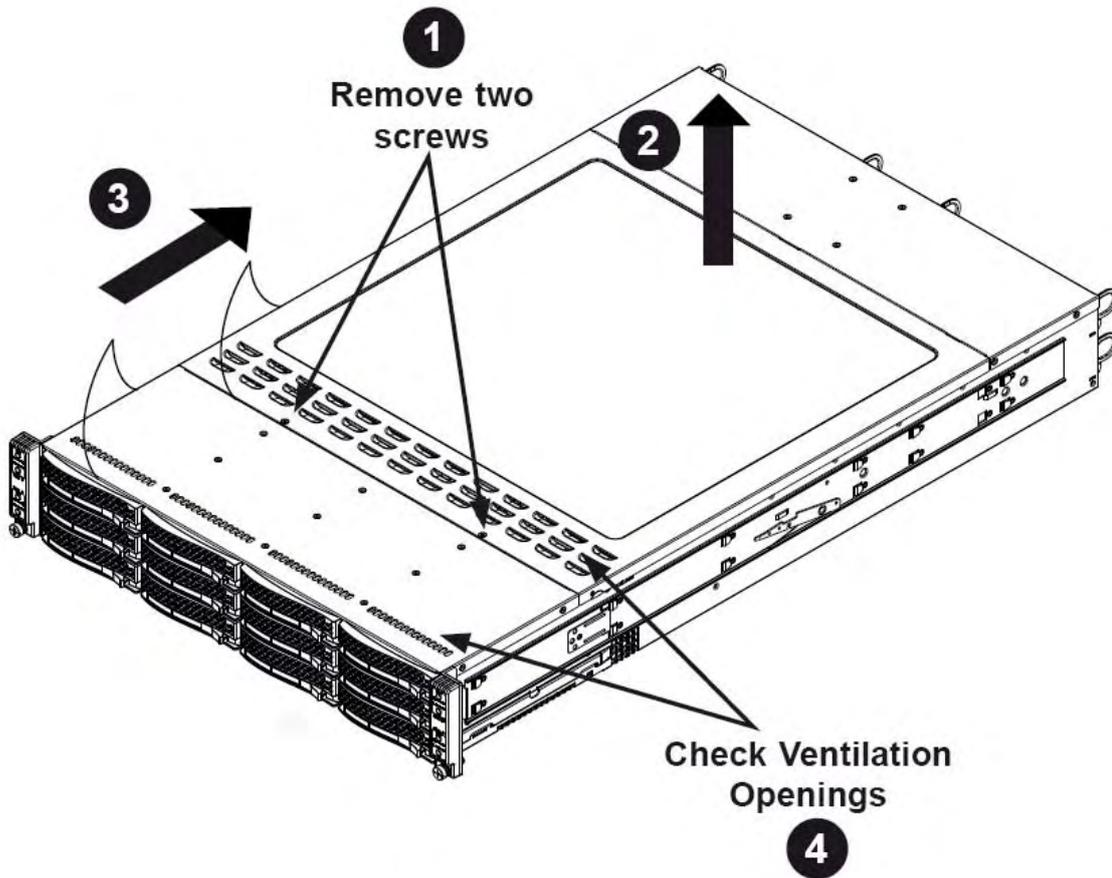

Figure 2-7. Removing the Chassis Cover
3. Remove the four screws (two on the sides and two on the top) that secure the top cover to the chassis. Place your thumbs in the two rectangular recesses and push the cover away from you (toward the rear of the chassis) until it stops. You can then lift the top cover from the chassis to gain full access to the inside of the server (see Figure 2-7).